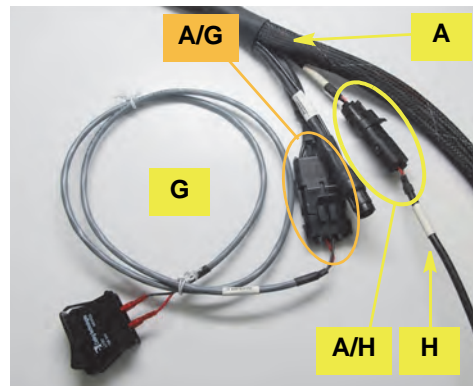

Figure 1c: Connecting the power switch and ‘Switch’ cable
- c. Connect power switch cable **G** to the 4-pin connector on interface cable **A** (Figure 1c).
- d. Connect switch cable **H**’s connector (labeled “FOOT” – see note following) between interface cable **A**’s connector labeled “SWITCH” and the MAX white cable’s connector labeled “SWITCH” (Figure 1c).